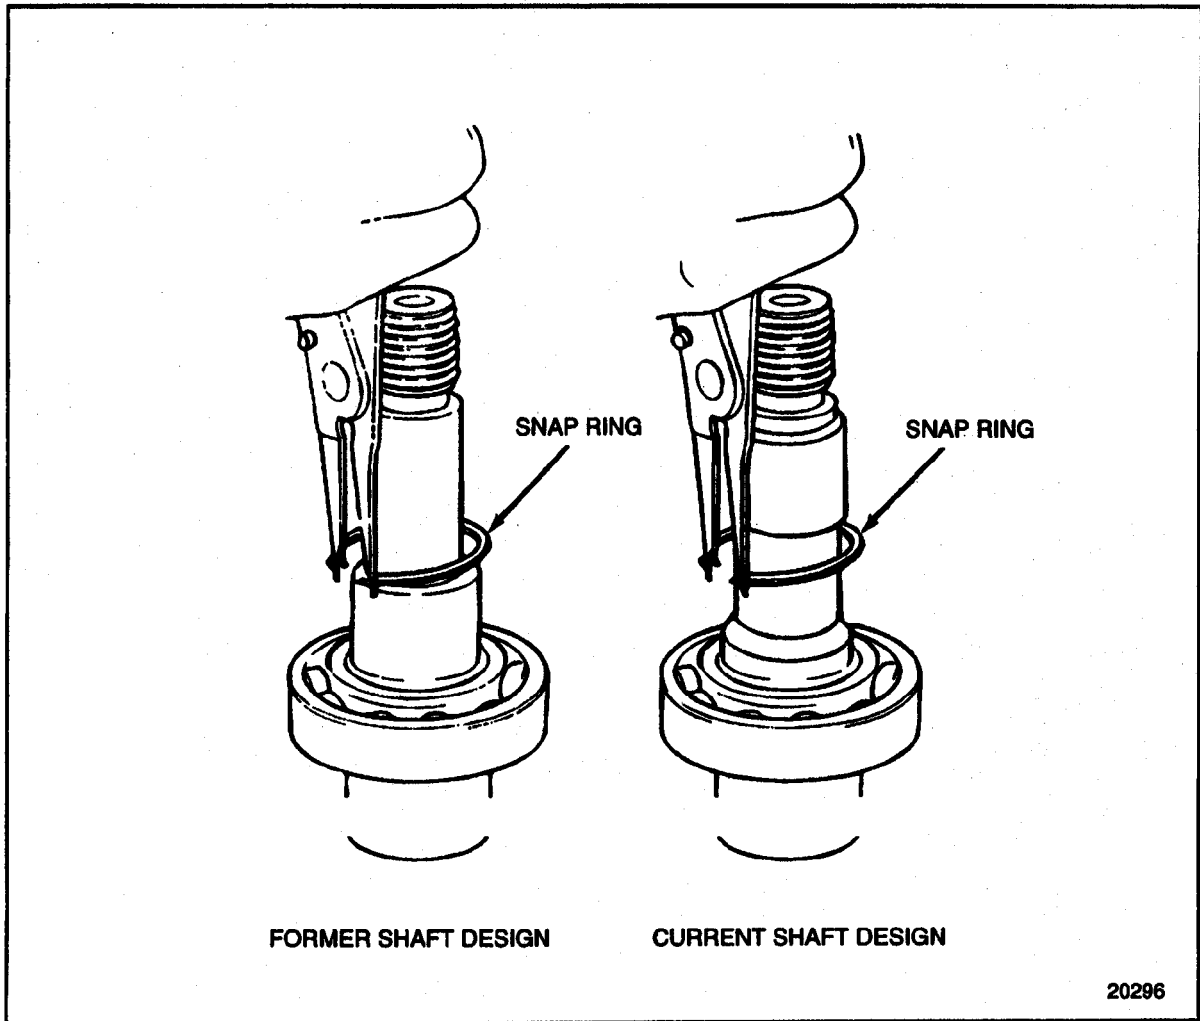

Figure 1-413 Snap Ring Installation
2. Install the snap ring to the accessory drive shaft making sure it is fully seated in the groove a full 360 degrees See Figure 1-413.